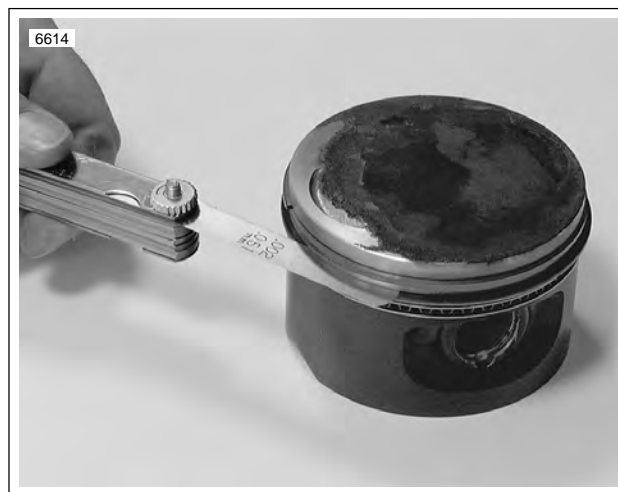

Figure 3-75. Measuring Ring Clearance in Groove
- See 3.1 SPECIFICATIONS. See Figure 3-75. Check for proper side clearance with thickness gauge, as shown.